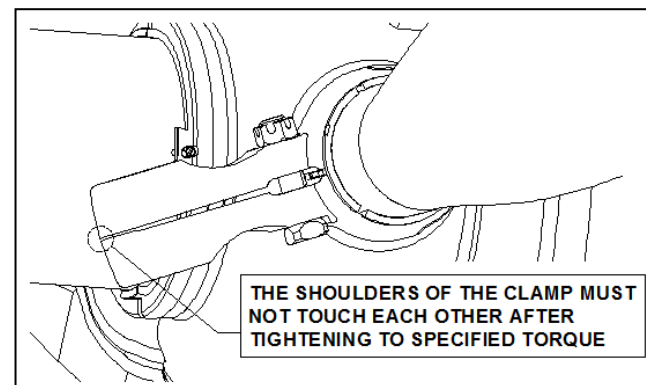

Figure 5-7
- (9) Make sure that the shoulders of the clamp do not touch each other after tightening the clamp bolt to specified torque (Figure 5-7) and secure the nut with supplied cotter pin. If the holes for cotter pin are covered after torquing, tighten the nut additionally until nearest hole is open.